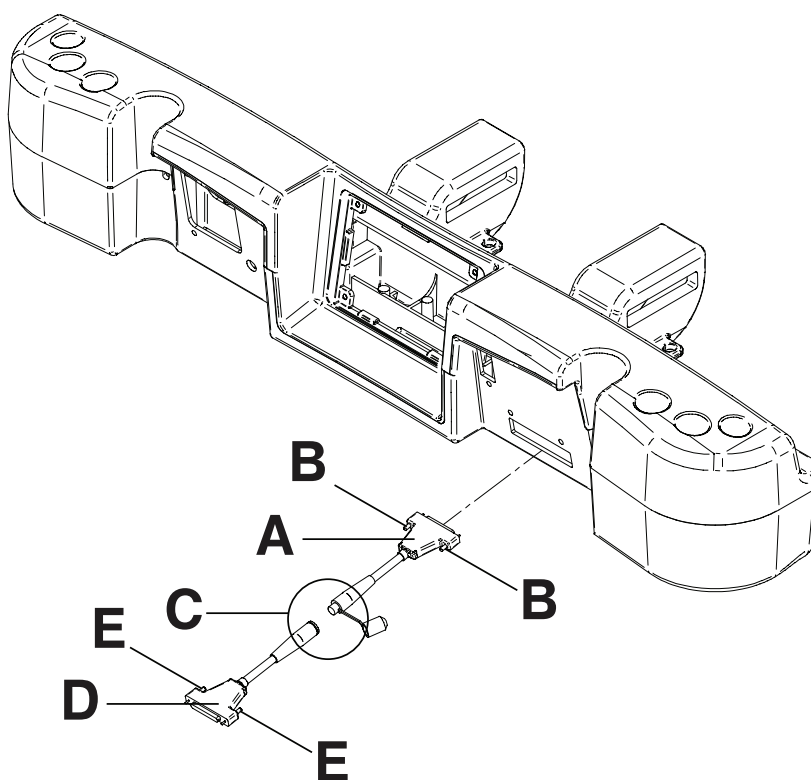

Figure 136: Wall saver connections
1. Insert the pin end of the first connector (A) into the head end of the product (Figure 136 on page 119).
2. Screw the connector fasteners (B) in to secure the connector to the product (Figure 136 on page 119).
3. Connect the back end of the second connector into the back end of the first connector (C) (Figure 136 on page 119).
4. Insert the pin end of the second connector (D) into the wall (Figure 136 on page 119).
5. Screw the connector fasteners (E) in to secure the connector to the wall (Figure 136 on page 119).